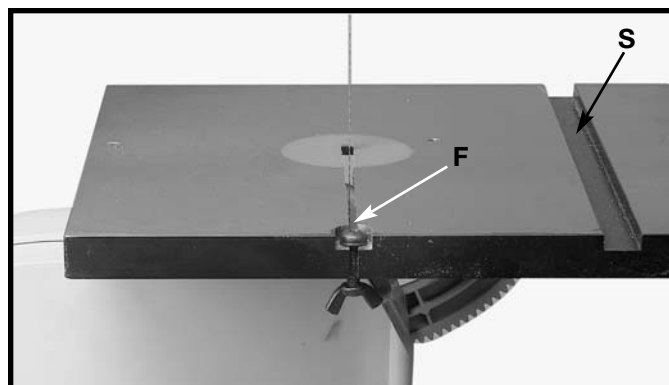
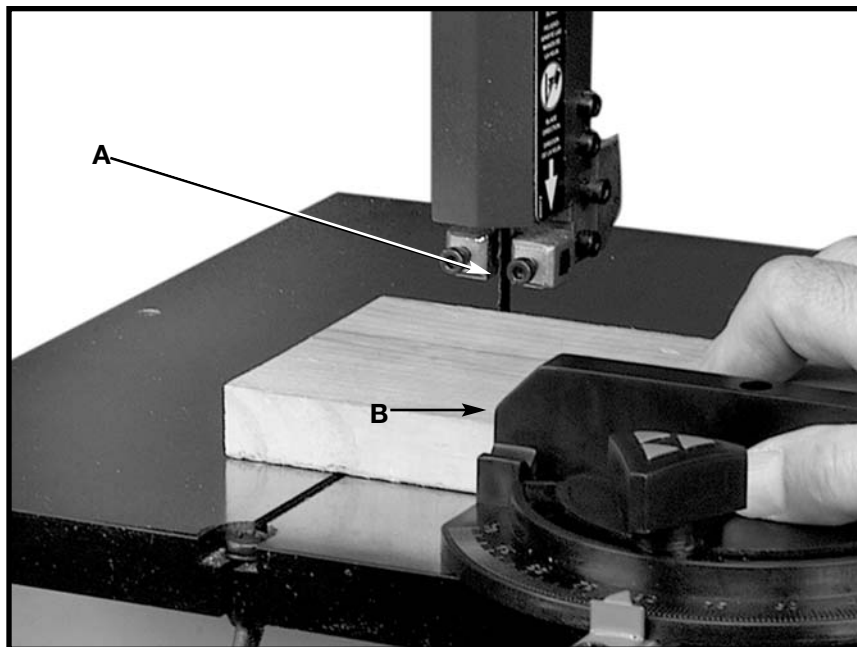

Fig. 37
Fig. 40
4. Remove table alignment screw (F) Fig. 37.
10. To use the miter gage as shown in Fig. 40, insert the miter gage guide bar into miter gage slot (S) Fig. 37 and adjust it to the desired angle.
Fig. 40 illustrates a typical cross-cutting operation using the miter gage. Notice how the upper blade guide assembly (A) is set slightly above the work surface (B).